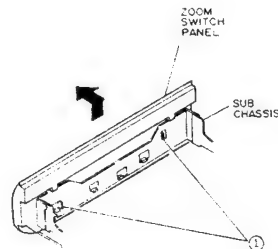

Fig. 2-28
- 1) Release two (2) tabs and remove the zoom switch plate from the sub chassis in the direction of the arrow. (See Fig. 2-28)